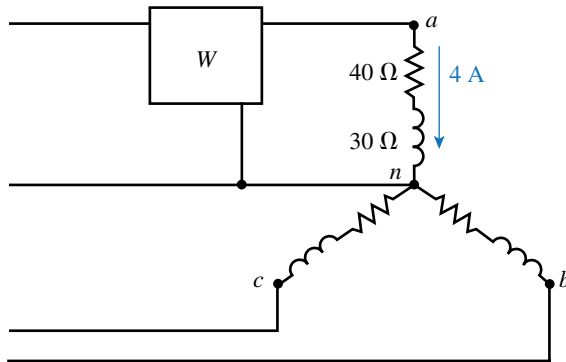

FIGURE 23–53
47. For Figure 23–46, the generator phase voltage is 120 volts.